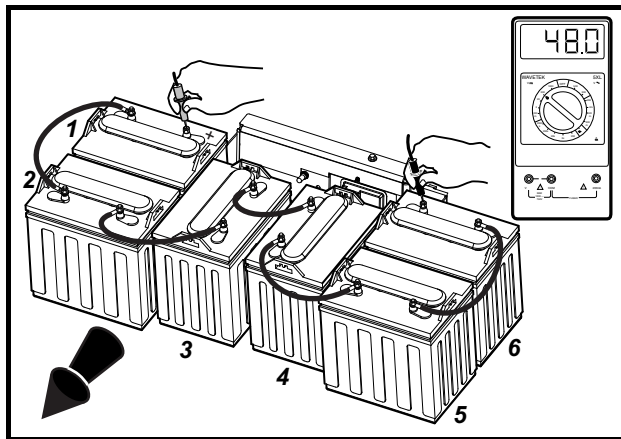

Figure 3-16 Battery Voltage Test – Style C Battery Configuration
- 4.4. **Style C 6 x 8-Volt Precedent only:** With a multimeter set to 200 volts DC, measure the voltage of the battery pack between the positive (+) post of battery no. 1 and the negative (-) post of battery no. 6 (**Figure 3-16, Page 3-18**).
1. Check the batteries and the receptacle to ensure that they are wired in the correct polarity (**Figure 3-11, Page 3-16 through Figure 3-16, Page 3-18**). Also check the voltage and polarity at the receptacle.